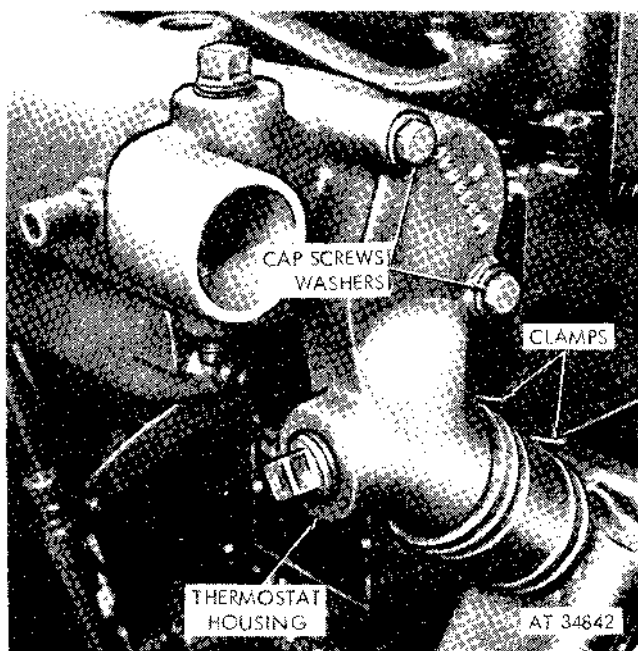

Figure 2-136. Thermostat housing—multifuel models.
- (1) Drain the cooling system. Refer to **TM 9-2320-211-10**.
- (2) Loosen the rear clamp on the radiator inlet hose.
- (3) Remove the two capscrews and plain washers securing the thermostat housing assembly to the intake manifold (fig. 2-136).
(2) Position the new intake manifold-to-thermostat housing gasket, and secure the thermostat and its housing to the intake manifold with two washers and capscrews (fig. 2-136).